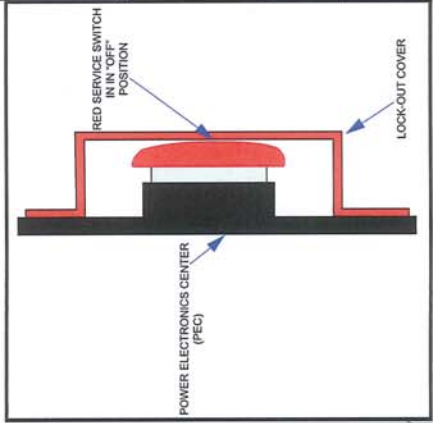

FIGURE 5 LOCK-OUT COVER
- STEP 5: INSTALL SERVICE SWITCH LOCK-OUT COVER PLATE, USING BOLTS REMOVED IN STEP 3 FIGURE 5.
- STEP 8: WAIT FOR FIVE (5) MINUTES BEFORE PROCEEDING TO ALLOW THE HYBRID SYSTEM HIGH-VOLTAGE TO DISCHARGE.